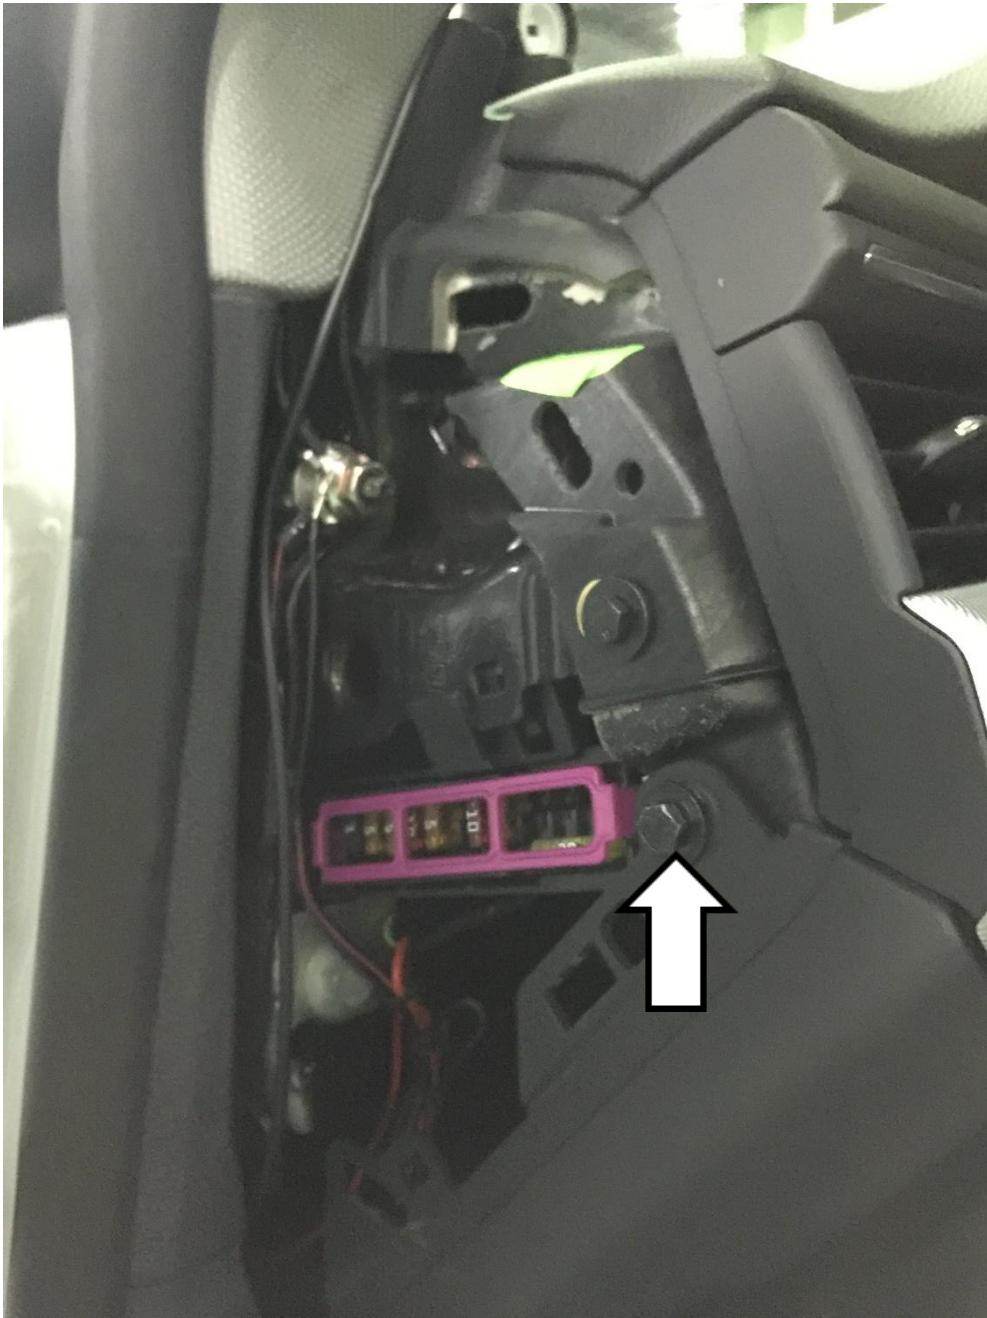

Figure 11
7. Remove the side trim panel, and then remove the screws to remove the trim panel (Figure 11)